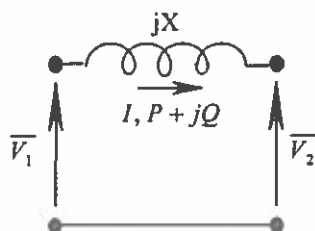

Figure 2
- a) Considering a simplified equivalent circuit of a high voltage transmission line presented in Figure 2,